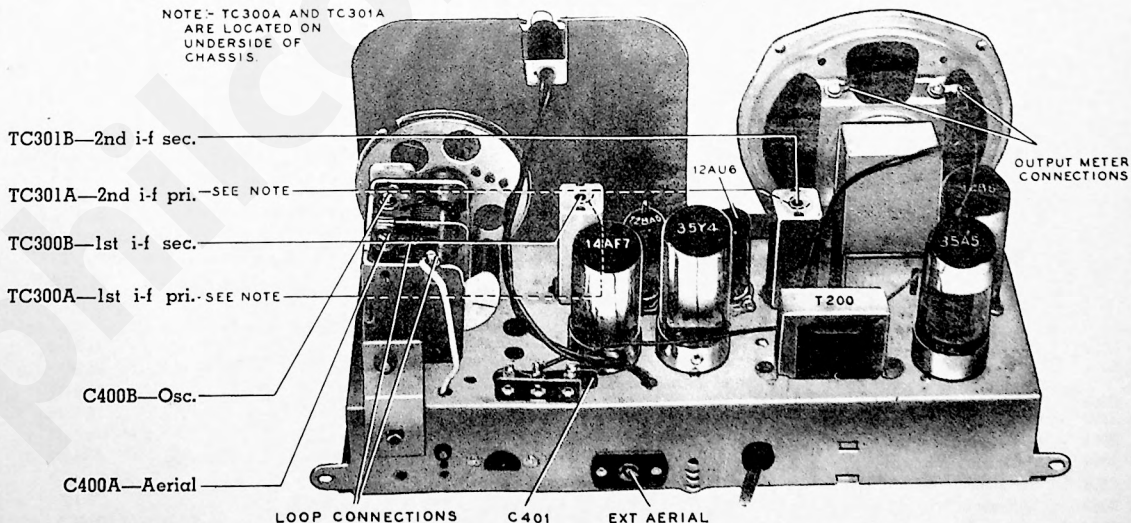

Figure 3. Top View of Chassis, Showing Trimmer Locations
**OUTPUT METER**—Connect across speaker voice-coil terminals (figure 3).